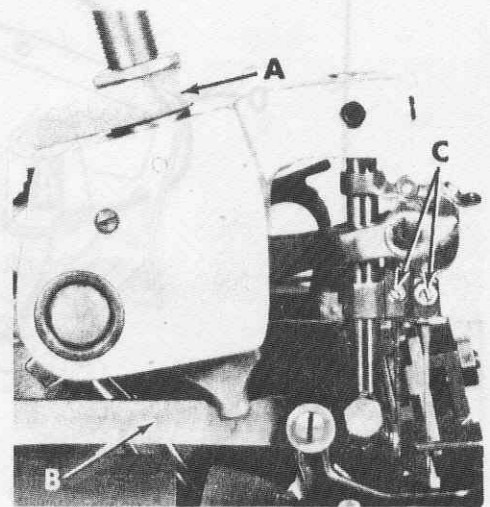

Fig. 1
Release pressure on presser foot by turning presser foot release lever (A, Fig. 1, 2 or 2A) and swing presser arm (B) out of position. With needles at high position, loosen screws (C, Fig. 1) in needle head and withdraw needles.
To replace needles, insert same into needle head as far as they will go, assuring that the scarf of the needles are to the rear, tighten screws (C, Fig. 1) securely. Return presser arm (B) to position; lock presser foot release lever (A).
The amount of tension on the needle and looper threads is regulated by the knurled tension nuts, (F. Fig. 1 or 1A). Tension on the threads should be only enough to secure proper stitch formation. Using a postal scale, the measurements are taken with the needles at the top of their stroke and pulled in the direction as indicated. As a start the approximate tensions should be as follows: